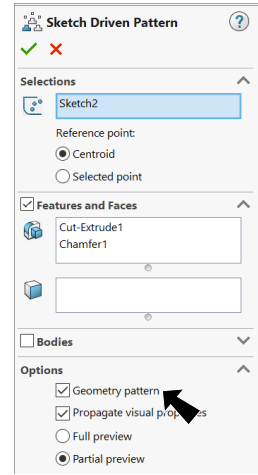

Fig. 20
- under Selections, **Fig. 20**